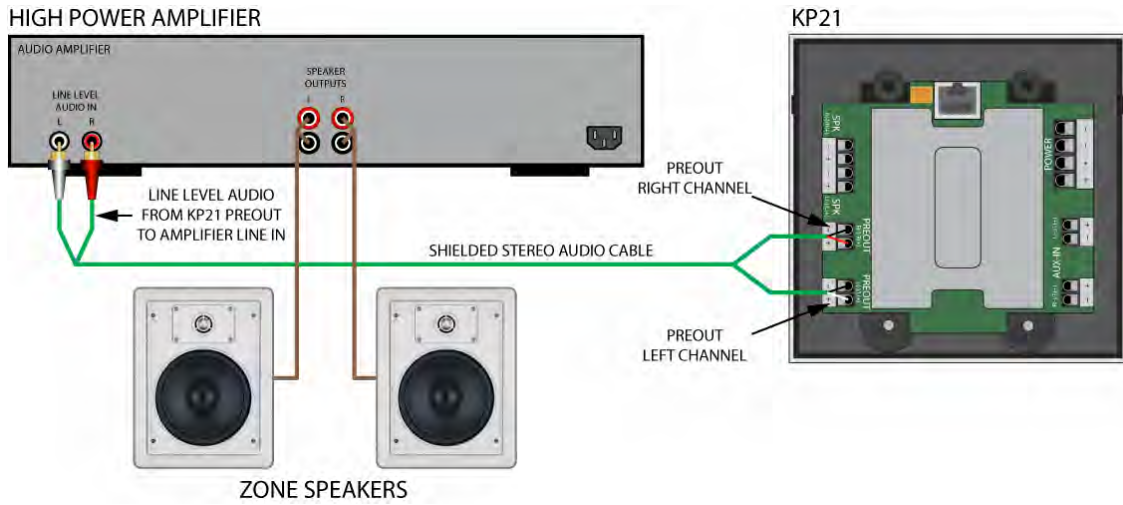

Figure 97 KP21 PREOUT Connections
4. Connect to the amplifier's Left and Right line level audio inputs as shown in **Figure 97**.